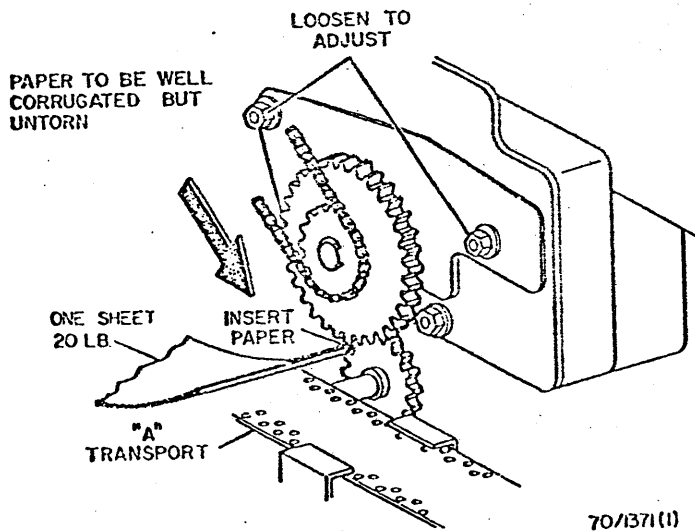

Fig. 3-8. A Transport Drive Chain Adjustment
2. Loosen the two nuts indicated (Fig. 3-8).